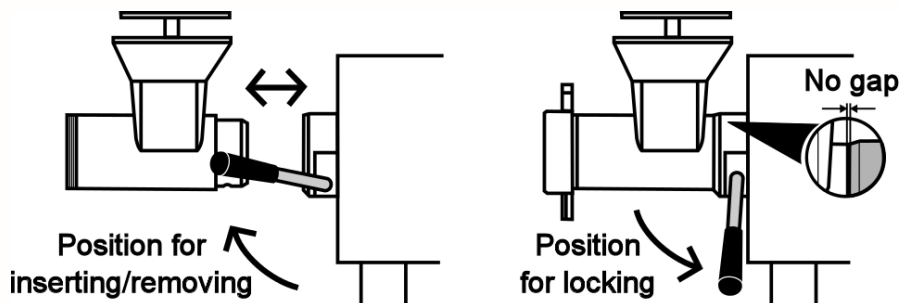

FIG.2 POSITION FOR LEVER HANDLE
- 2.- Turn the lever handle (8) to shown position (see Fig 2) to be able to remove the headstock (13).
- a) After assemble Headstock (13), lock it pushing down the lever handle (15) (See Fig 2).
- b) The knife (18) must be inserted into worm's shaft. The sharp end must face forward.
c) Place plate (19) centered against knife (18) assuring the notch matches the Headstock's inserted pin.